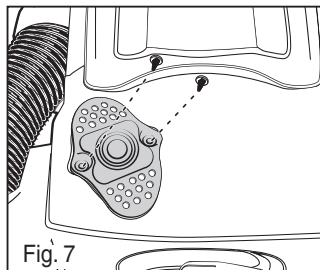

Fig. 7
- 1) Unscrew the lens and remove old bulb. Replace with bulb rated 12v., 10w., Type 904 (Fig. 7).
- 1) Use handle release to lower handle flat onto floor. Turn vacuum over. Remove 3 screws (Fig. 7) and lift off base plate.